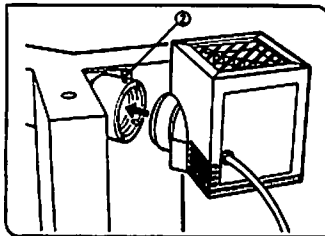

Fig. 12
1. Using the Allen screwdriver, fully loosen the lamp housing clamping screw ② on the reflected light port on the microscope. (Fig. 12)